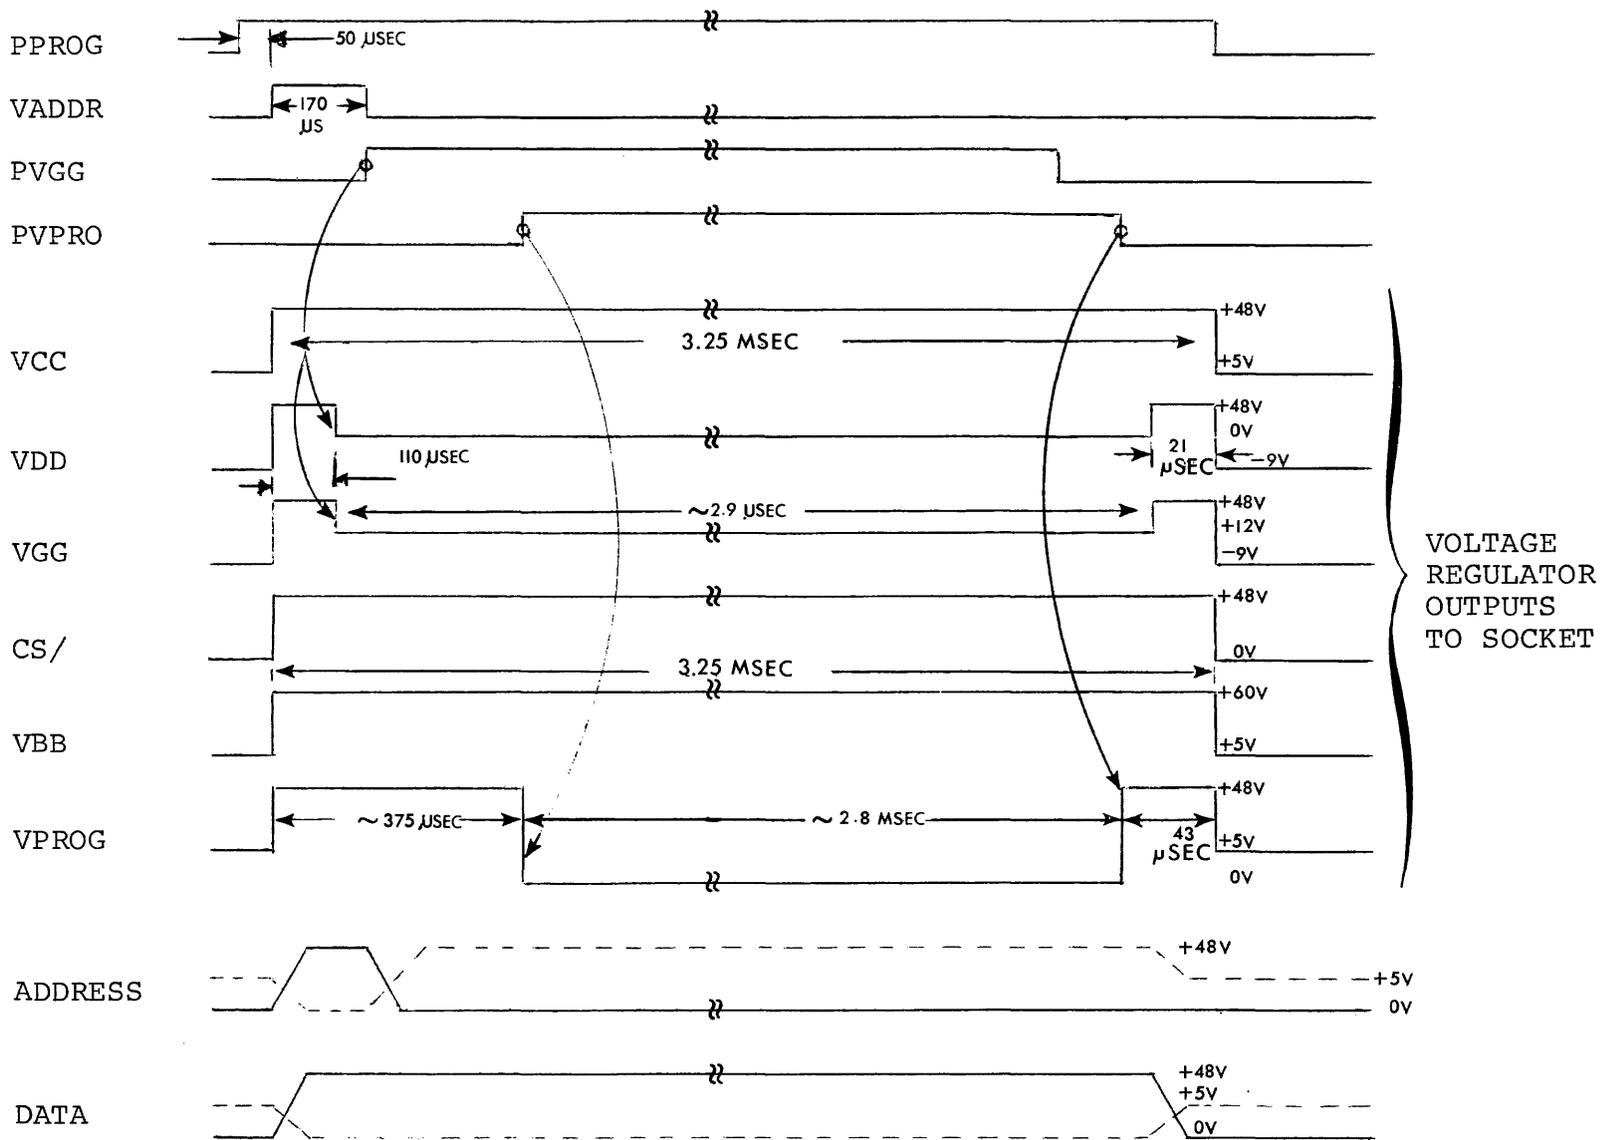

FIGURE 7-2
- a) All six Voltage Regulator outputs are changed as shown in Figure 7-2.
- b) The PROM Read/Write Data Logic inverts the Write Data and presents it to the PROM as shown in Figure 7-2.
- 3) The signal V-Address is switched from low to high. This causes the Address Inverter to complement each address bit. The complemented address is presented to the PROM as shown in Figure 7-2.
- 4) Approximately 110 μ s later, PVGG is switched from low to high. This causes VDD (pin 88) and VGG (pin 80) to drop as shown in Figure 7-2.
- 6) After approximately 72 μ s, PVPRO switches from low to high causing VPROG (pin 77) to dip as shown in Figure 7-2.